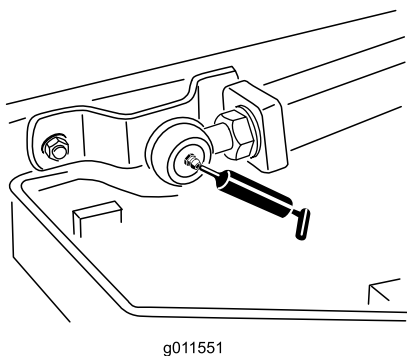

Figure 46
- 2 lift-arm-ball joints (Figure 46)